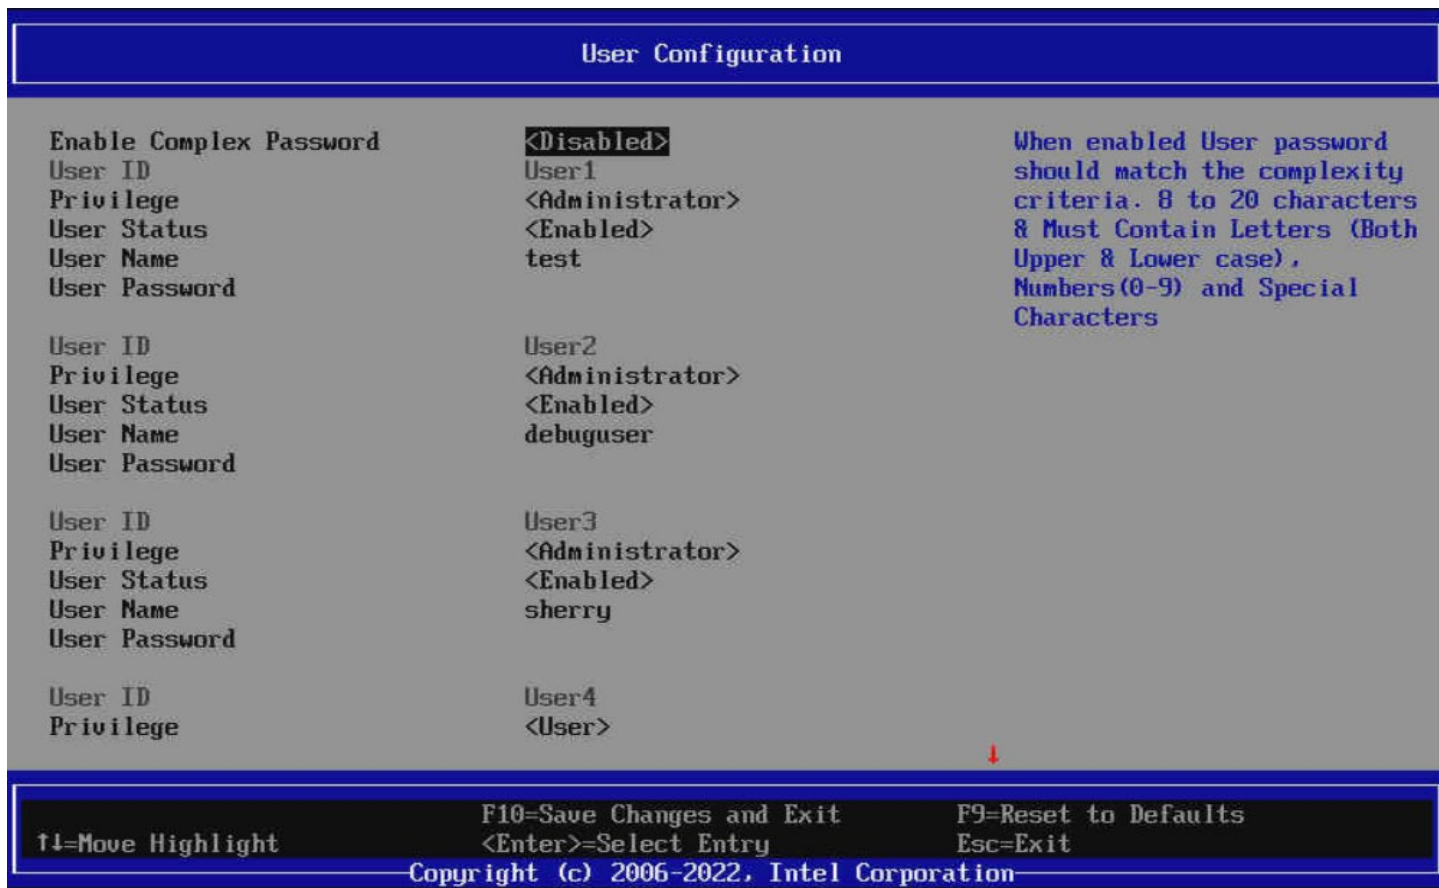

Figure 25. User Configuration Screen of the BIOS Setup Utility
5. Navigate back to the **Server Management** tab then select **User Configuration** to enter the User Configuration screen (Figure 25).